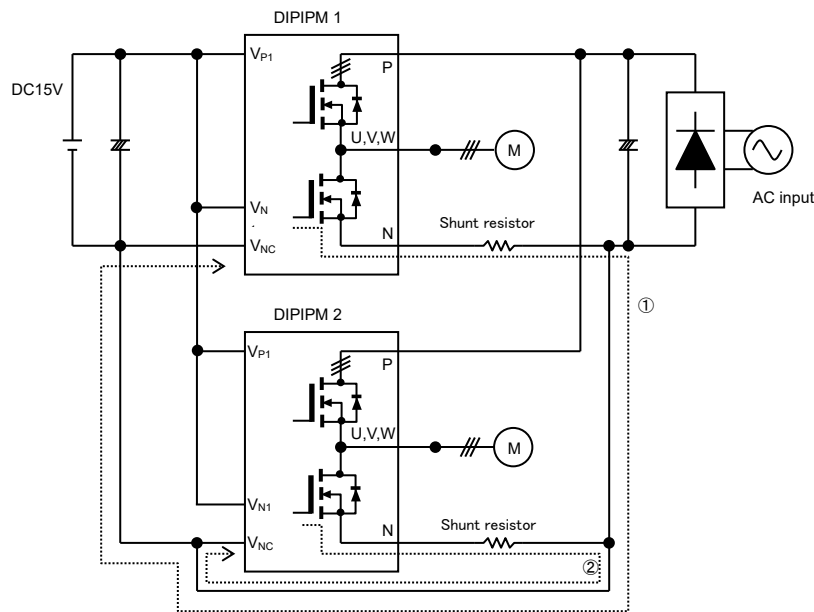

Fig.3-1-13 Parallel operation
Fig.3-1-13 shows the circuitry of parallel connection of two DIIPMs. Route (1) and (2) indicate the gate charging path of low-side MOSFET / IGBT in DIIPM No.1 & 2 respectively. In the case of DIIPM 1, the parasitic inductance becomes large by long wiring and it might have a negative effect on DIIPM's switching operation. (Charging operation of bootstrap capacitor for high-side might be affected too.) Also, such a wiring makes DIIPM be affected by noise easily, then it might lead to malfunction. If more DIIPMs are connected in parallel, GND pattern becomes longer and the influence to other circuit (protection circuit etc.) by the fluctuation of GND potential is conceivable, therefore parallel connection is not recommended.